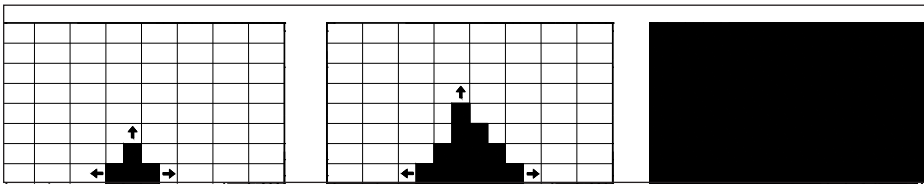

Figure 37: Module Installation Sequence
2. Start in the bottom middle of the display and then install left and right. Then move up one row. Refer to **Figure 37**.